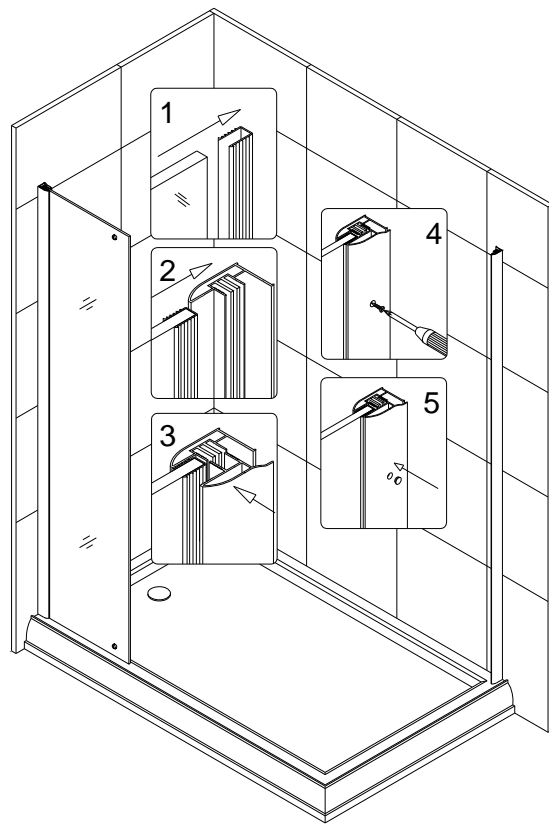

Fig 2
2. Have out the **Stationary glass 1 (03)**. Locate small holes on the stationary glass. These holes must be located toward the door. Place a **U-shape seal gasket (14)** on the long (vertical) side of the glass panel. Push the **Stationary glass 1 (03)** into **Glass profile (02)** groove, then attach the glass profile and the wall profile using **Flat head screws ST4.2x16 (17)** and fasten tightly the profile so to secure the position of the stationary glass. Cover the screw location with **Decorative cover (18)**. See Fig 2 for details.